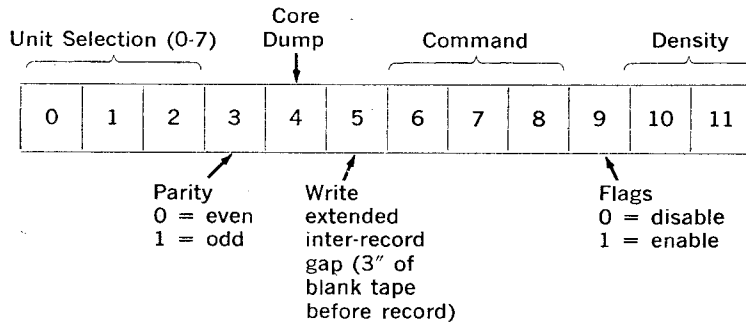

Figure 7-23
- Any command (see figure 7-23) which the tape control, although ready, cannot perform; for example: